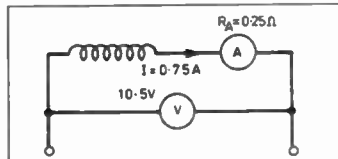

Fig. 4.2. What is the true resistance of the coil?
- The resistance of a coil is measured using the circuit of Fig. 4.2. The ammeter has a resistance of $R_A = 0.25\Omega$ and reads 0.75A , and the voltmeter reads 10.5V . What is (a) the approximate resistance of the coil, (b) the actual p.d. across the coil, (c) the true resistance of the coil.